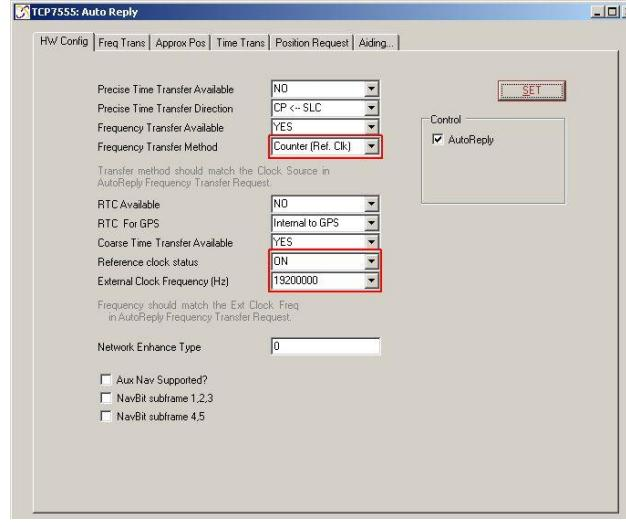

Figure 7.44: Counter: HW Config
- HW Config settings as in Figure 7.44.